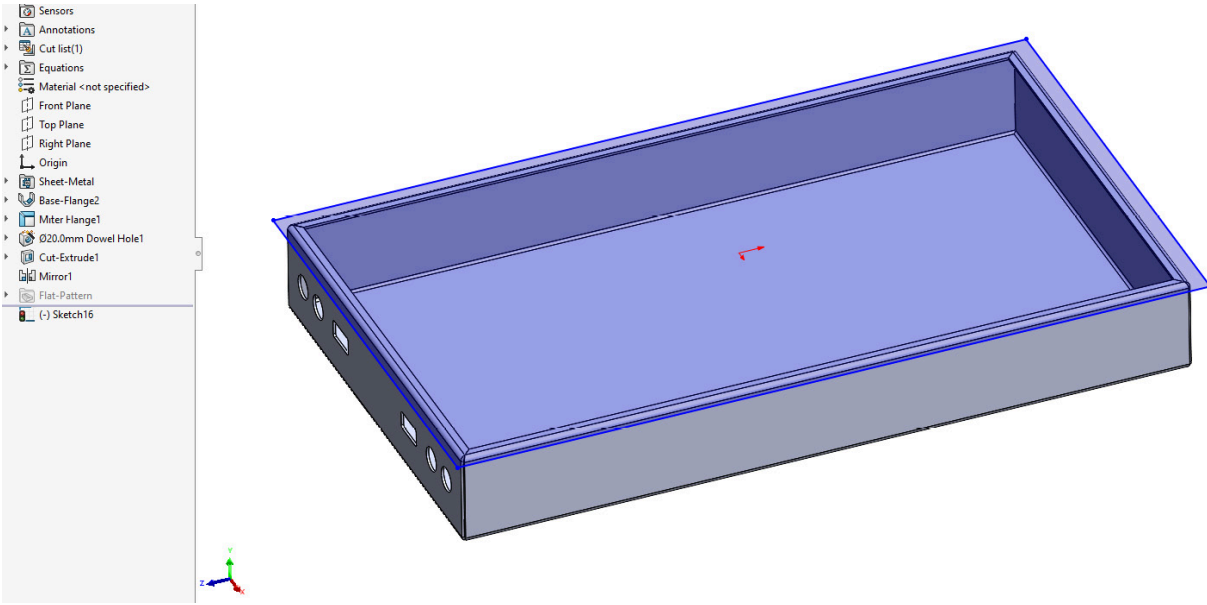

Figure 13.10 – Sketching a Corner Rectangle on the small upper face of the Miter Flange walls
1. First, we need to draw a profile for the new **Base Flange**. Start a sketch on the small upper face of the existing **Miter Flange** walls. Then use a **Corner Rectangle** to draw a rectangle that is slightly larger than the existing enclosure base all the way around (*Figure 13.10*):